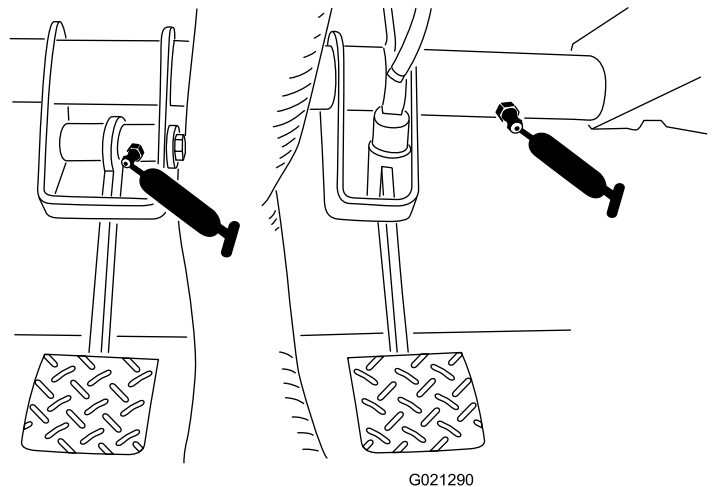

Figure 38
- Clutch (1) and brake (1) (Figure 38)